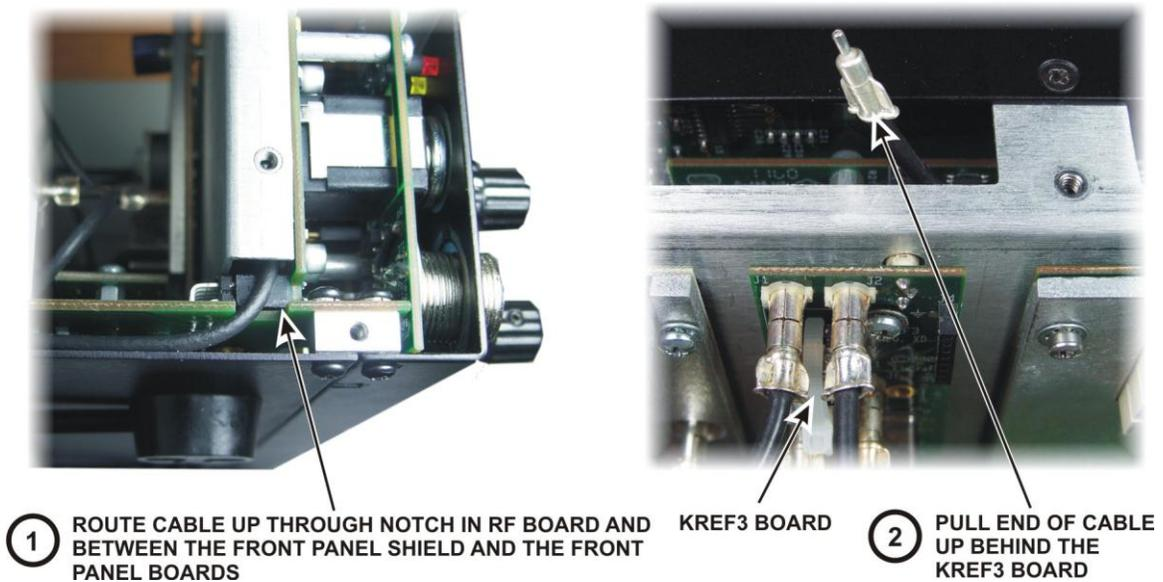

Figure 5. Routing the SMA Cable Behind the Front Panel.
- Route the cable through the notch near the front of the RF board and up between the front panel shield and the front panel board assembly. Bring the end of the cable up above the front panel shield behind the KREF3 board as shown in Figure 5.